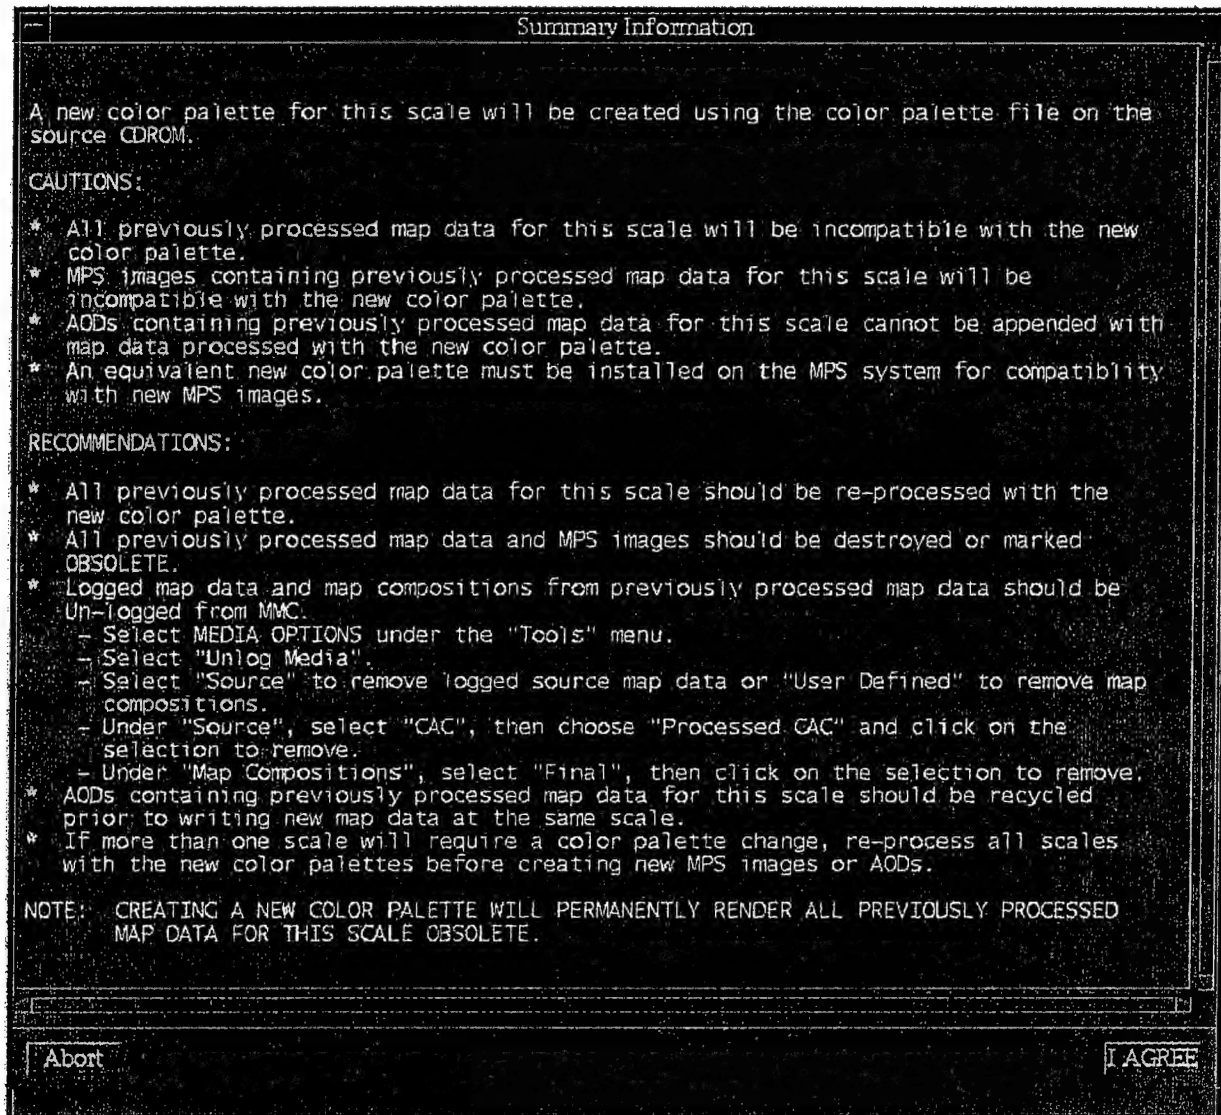

Figure 4. New color palette caution summary
- g. A **Summary Information** window (figure 4) is displayed that lists cautions and recommendations to consider before creating a new color palette (use the scroll bar to read *all* recommendations). **Please read this information carefully!** Click on *I AGREE* to proceed.